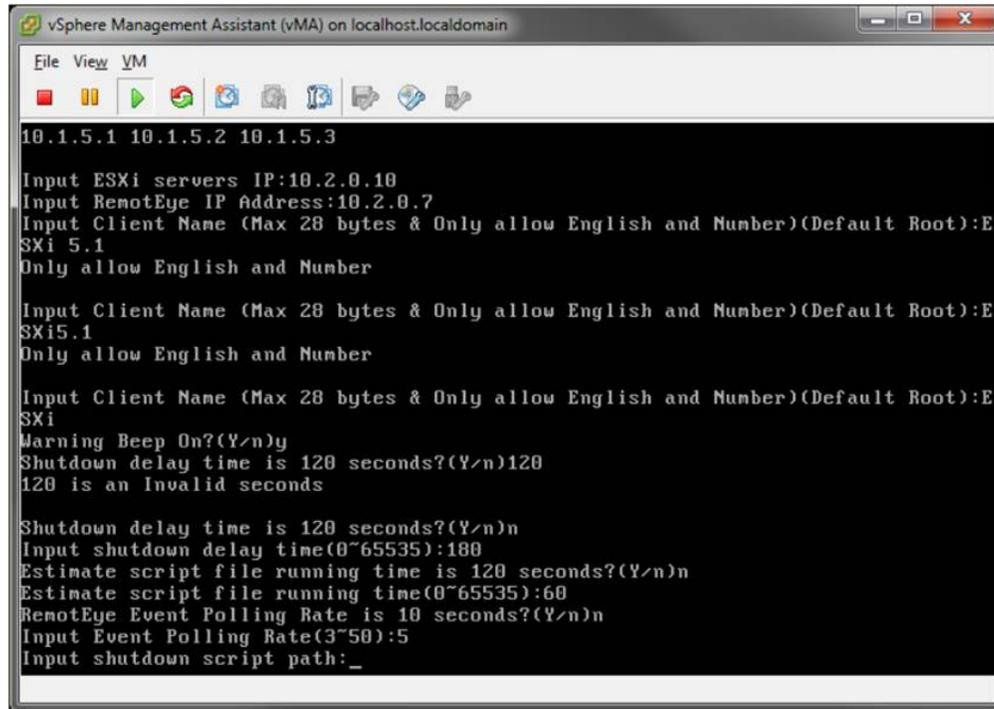

Figure 0-7 Install Screen Shot
15. Install the software: Type “**sh install.sh**” in the command prompt and press **Enter**. Follow the instruction prompts. (See Figure 0-7)